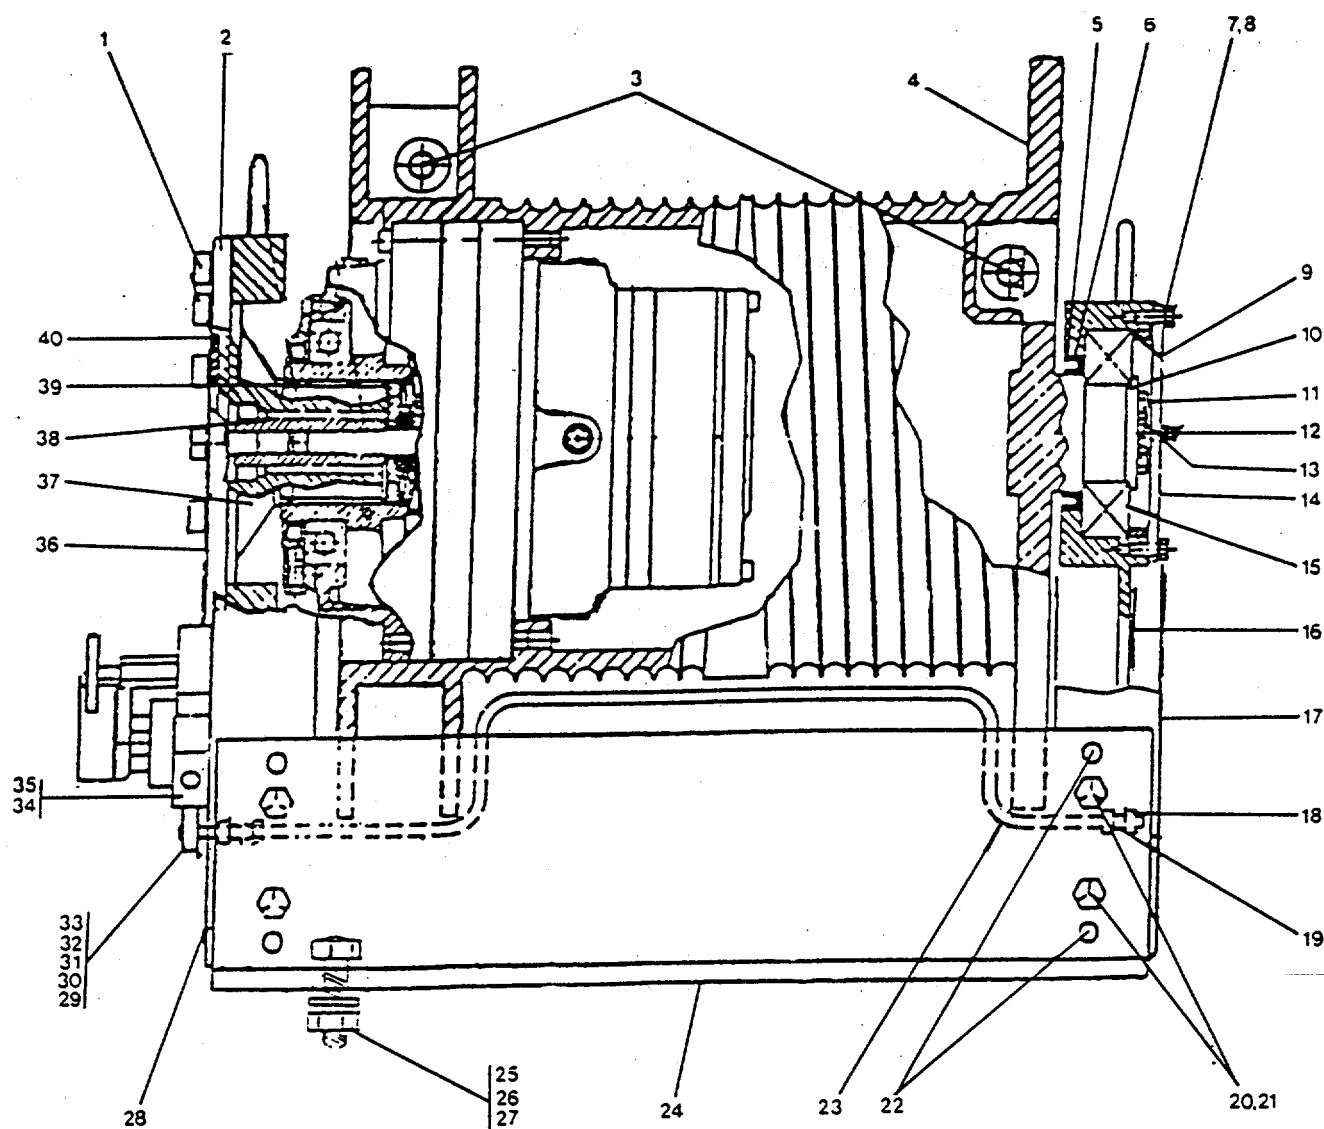

FIGURE 4-10. Winch Assembly Component Detail.
- (5) From upright (28) remove round head screws (35), limit switch (34), spring (29), socket head capscrew (30), arm (31), socket head cap screw (32) plain nuts (33) and remove upright (28).
- b. To remove gear reducer assembly from bow ramp winch drum (FIGURE 4-10) loosen socket head capscrews (8), remove headless straight pins (30) and remove socket head capscrews (8).
4-18. Repair Bow Ramp Winch. (FIGURE 4-10)